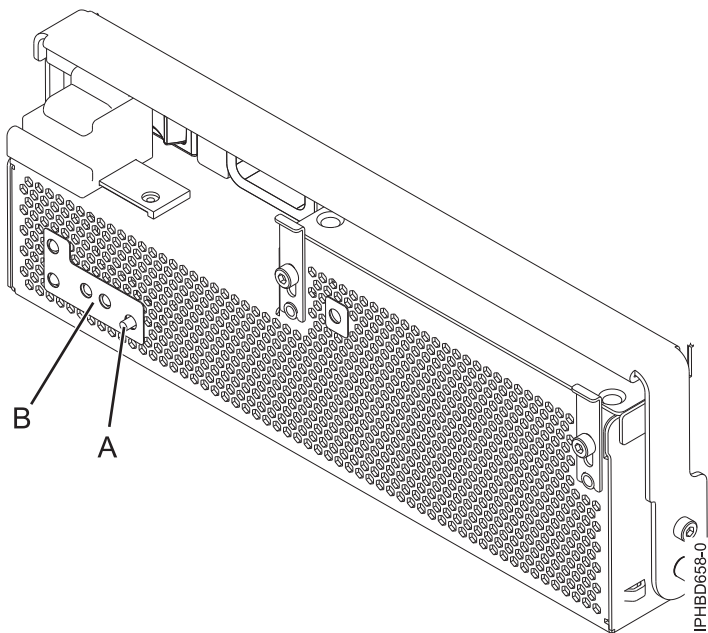
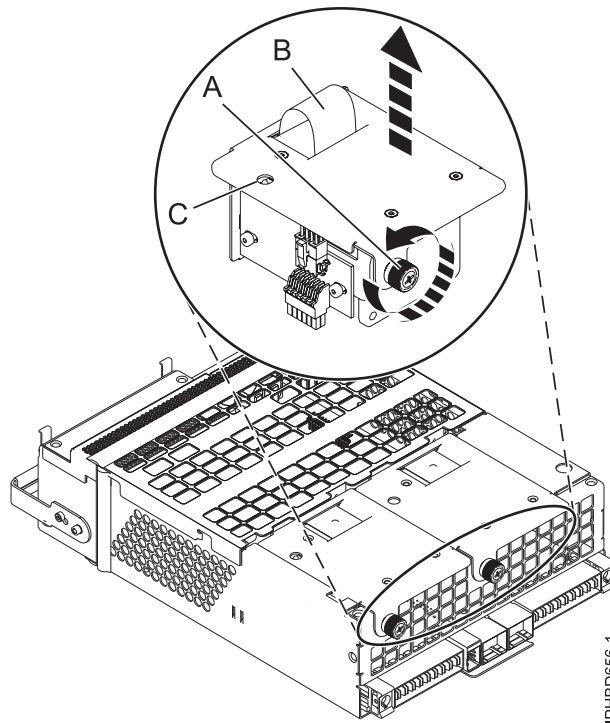

Figure 60. Fan fault LED and fan identify button
Figure 61. Removing a fan
**Note:** If a fan fails, the amber fan fault LED (**B**) on the front of the offline converter assembly (OCA), as shown in Figure 60, is on solid.
- a. To identify the failing fan. Press the fan identify button (A), as shown in Figure 60 on page 73. An amber left or right fan-fault LED (C) on solid, as shown in Figure 61, indicates the faulty fan.
- b. Loosen the thumbscrew (A) that holds the fan in the power-supply assembly, as shown in Figure 61.
- c. Use the recessed fan handle (B) to lift the fan from the power-supply assembly, as shown in Figure 61.